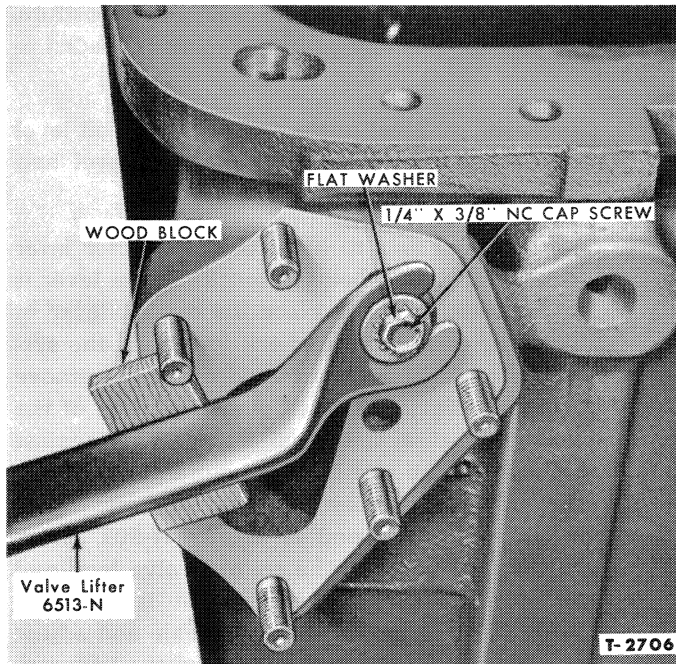

Figure 36—Removing Pump Relief Valve
4. Position a small block of wood on the housing and pry the valve out of the bore as shown in Figure 36.